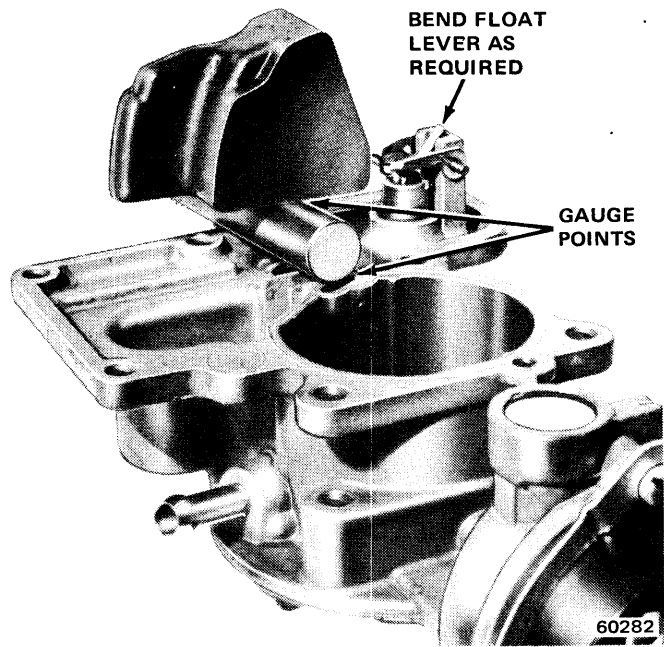

Fig. 4-27 Float Level Adjustment
(1) Remove carburetor air horn and gasket from carburetor.
(2) Invert air horn assembly, and check clearance from top of float to bottom of air horn with float level gauge (fig. 4-27). Hold air horn at eye level when gauging float level. The float arm (lever) should be resting on the needle pin.